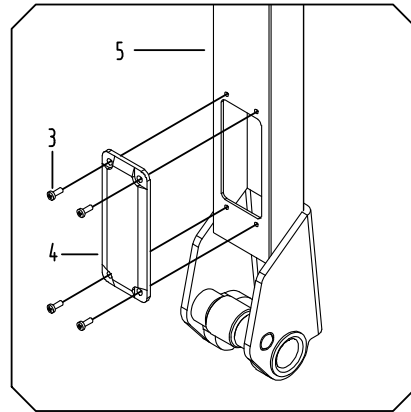

Figure 2
- 4.2 Refer to Figure 2. Take down screw 3, and take out cover plate 4 from handle assembly 5.